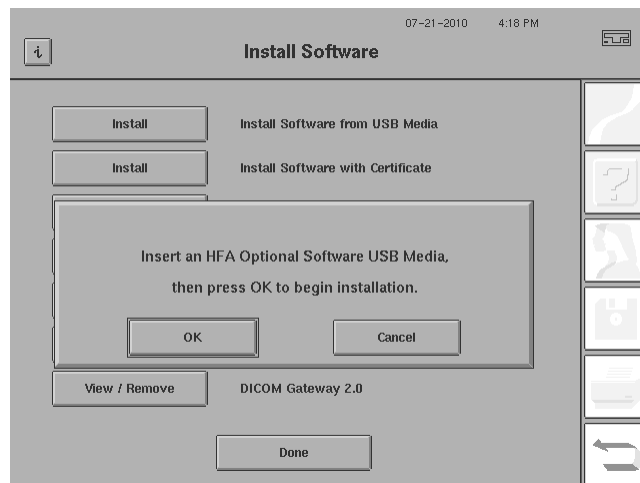

Figure J.3 Beginning an Installation
- 2 Select INSTALL SOFTWARE FROM USB MEDIA on the Install Software screen. A dialog box will be displayed as shown in Figure J.3. below.